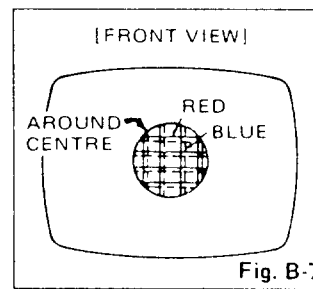

Fig. B-7
3. Rotate the front pair of tabs as a unit to minimize the separation of the red and blue lines around the center of the screen. Variation of the angle between the tabs adjust the convergence of red and blue. (Fig. B-7)